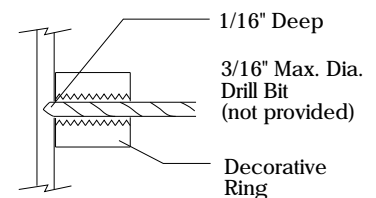

Fig. 8
**Caution:** *The Decorative Ring is not intended to support the weight of Blade or Graphic Panel Assemblies. To prevent Decorative Ring from sliding, drill a 3/16" diameter hole half way through the Post at each set screw location. Screws can then be inserted deeper resulting in a positive tamper proof installation. (Refer to Fig. 8)*